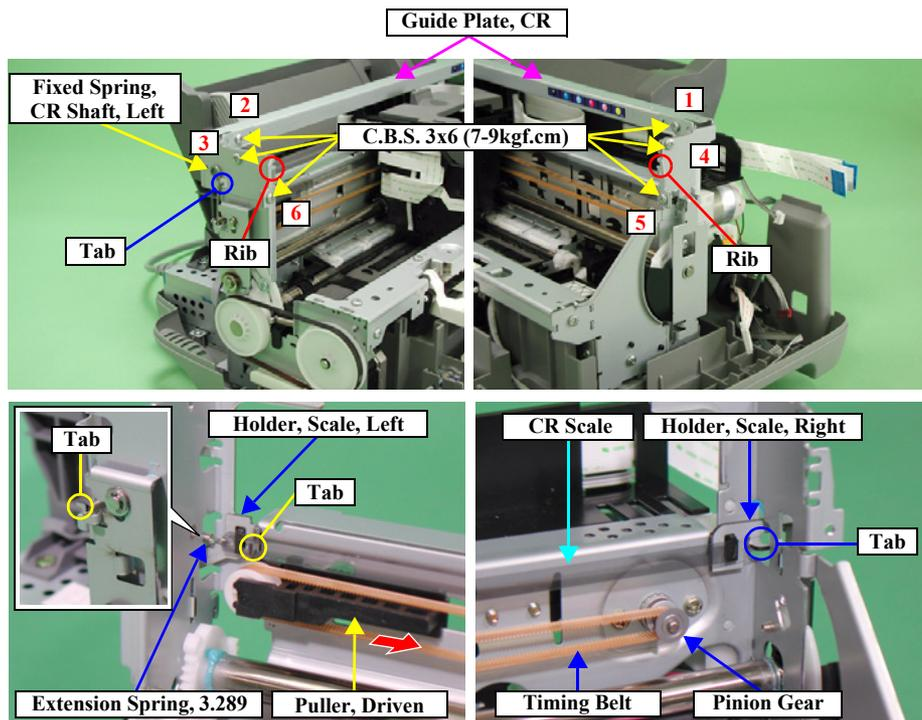

Figure 2-25. Carriage Unit Removal (1)
- Tighten the six screws to secure the Guide Plate, CR in order shown in Figure2-25.